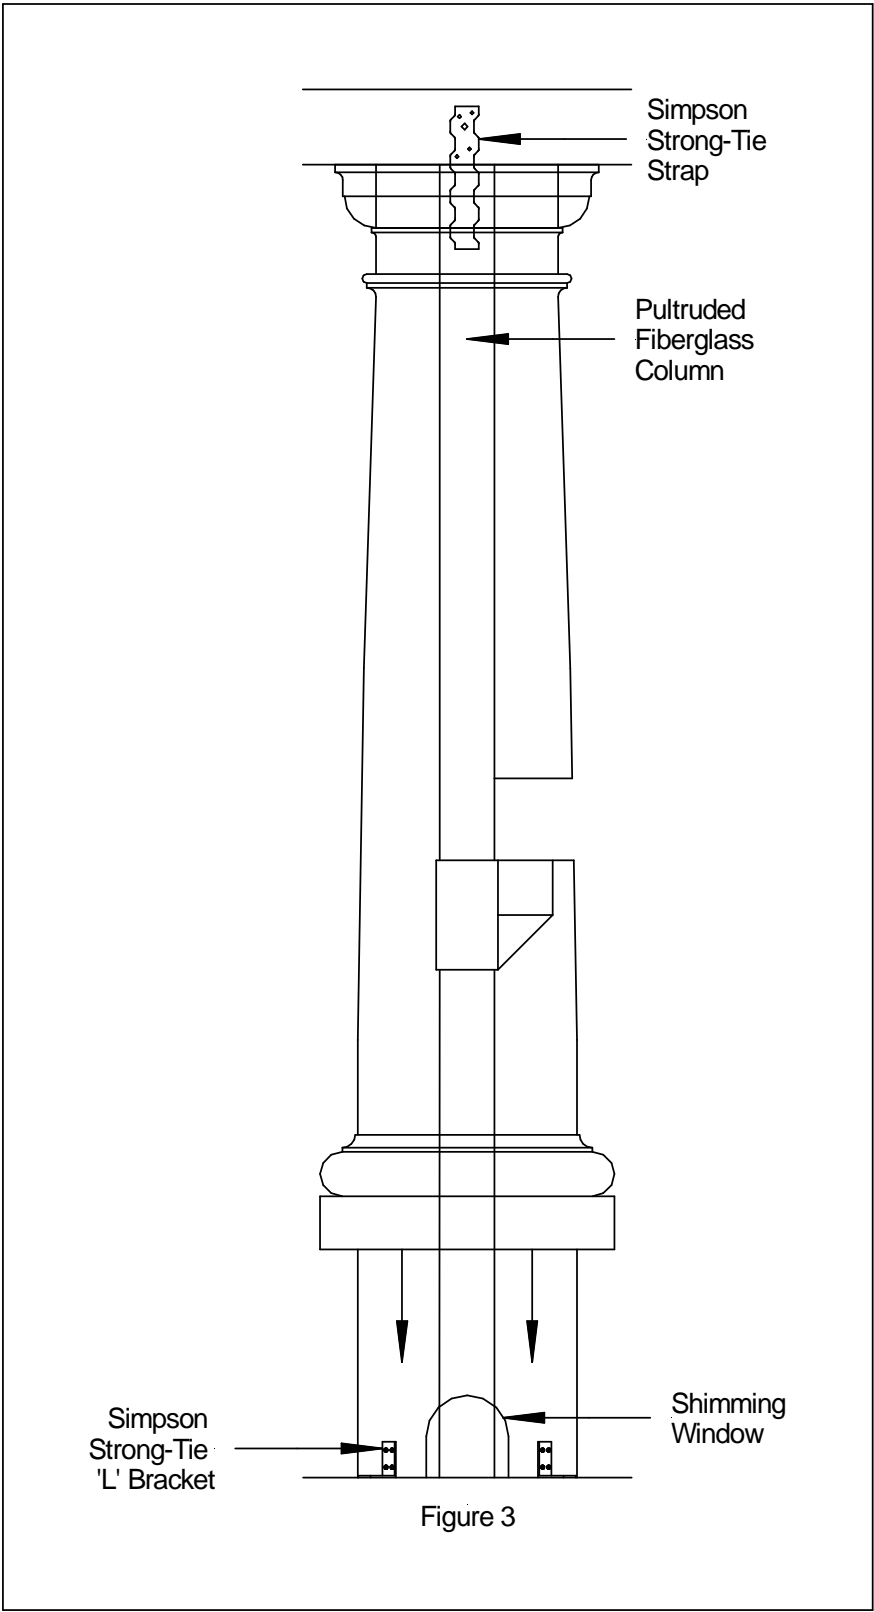

Figure 3
fiberglass pultruded interior structure. To gain access to the pultruded shaft a small “window” is cut into the column below the height of the base; see **Figure 3** below. If a degradable material is used to shim the column, automotive body filler or another high compression strength material should be used around the bottom of both shafts. This way if the shim rots away the column shaft is still supported.
- **Step 3:** A Simpson Strong-Tie CS16-R is used to attach the top of the shaft to the soffit; see **Figure 3** below. The ends of the Strong-Tie pass through the capitals top flashing and using a palm driver to drive a 3/8” lag bolt or equivalent through the holes in the Strong-Tie into the soffit. Doing this at an angle pulls the Strong-Tie and shaft tight up against the soffit.
- **Step 4:** The capital is rotated to the desired angle and adhered in place. The bottom of the fiberglass shaft is attached to the substrate using Simpson Strong-Tie “L” brackets at a four locations around the shaft (preferably at 90° from each other); see **Figure 3** below. The fiberglass base slides down over the bottom of the shaft covering hardware and the shimming window. The base is also adhered to the substrate. The small 1/8” gap between the top of the base and the column shaft is caulked and the column installation is completed.